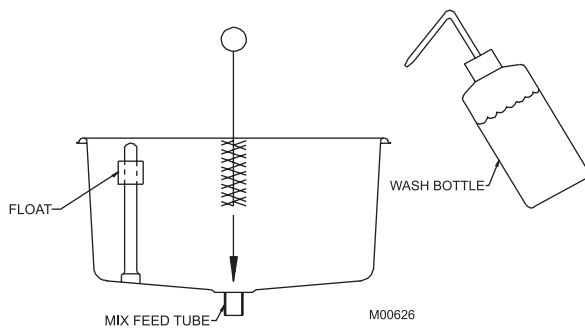
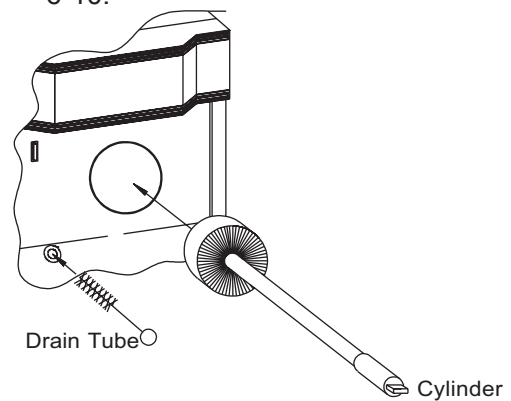

Figure 6-9 Clean hopper and mix feed port
Figure 6-10 Clean drain tube and cylinder
- Wash hopper walls and all soiled surfaces on the freezer with a clean disposable towel. Using proper brush, brush the hopper, the hopper inlet tube (figure 6-9), the cylinder and cylinder back wall (figure 6-10) thoroughly. Rinse using rinse bottle. Using sanitizing solution, repeat brushing and rinsing procedure making sure all surfaces contact sanitizer.
- Brush the inside of the drain tube with sanitizing solution, as shown in figure 6-10.